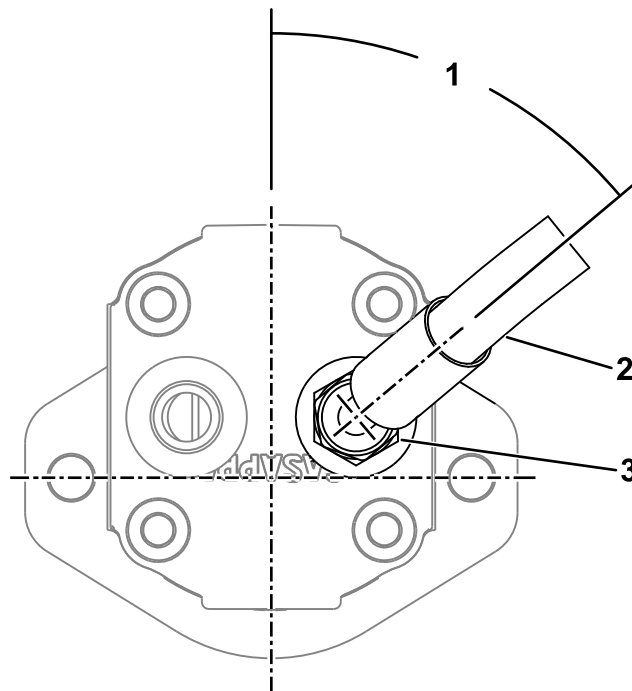
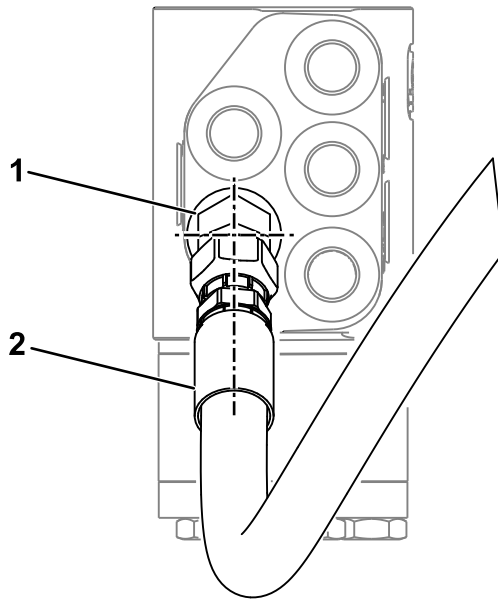

Figure 9
Figure 10
2. Connect the 45° hydraulic-hose fitting to the new straight fitting and orient it at 50° as shown in Figure 9.
4. Connect the straight hydraulic-hose fitting to the new 45° fitting as shown in Figure 10.
6. Ensure that the hose and fittings are aligned as shown in Figure 9 and Figure 10 and that there is no twist in the hose when routed next to the existing hydraulic lines.